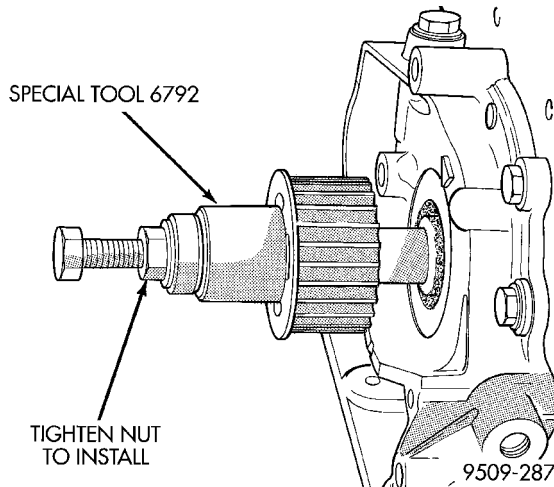

Fig. 77 Crankshaft Sprocket—Installation
(7) Install crankshaft sprocket, using Special Tool 6792 (Fig. 77).